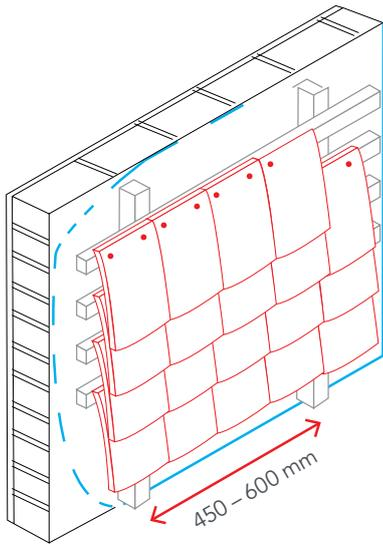

Figure 1: Detailing
- Flashing shall be lapped at joints by a minimum of 150 mm and extend 150 mm over the vertical tile where flashing is required (see Figures 1–2).